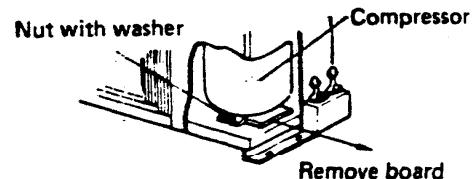

Fig. 38
- d) Check to see if compressor mounting bracket or board, which secures compressor during transportation, is removed. If not, remove them. Fig. 38